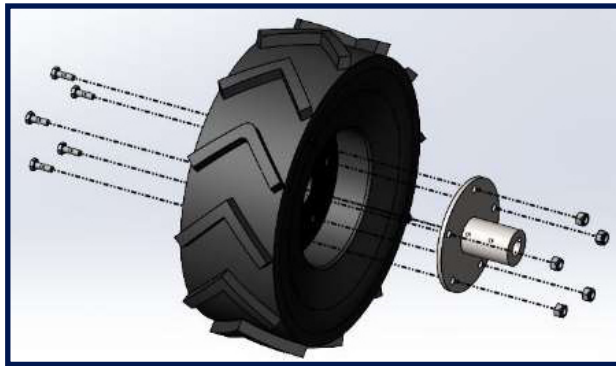

Figure 3
3. Let air out of the pneumatic wheels so that they are easier to manipulate. Take care not to pinch the inner tube when bolting to the hub. After the wheel is bolted in place, fill the tire with air to match the specifications on the side wall of the tire. See **Figure 3**.